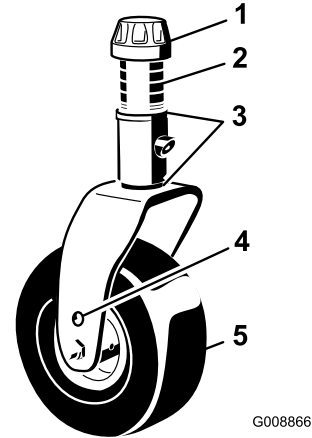

Figure 80
1. Remove the tensioning cap from the spindle shaft and slide the spindle out of the caster arm (Figure 80).